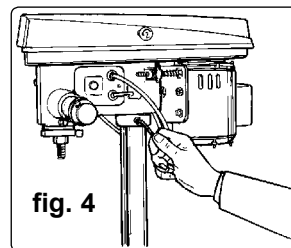

fig. 4
- 5.1.8. Fit the two set screws in the side of the head and tighten with hex. key (fig.4) to lock head in position.